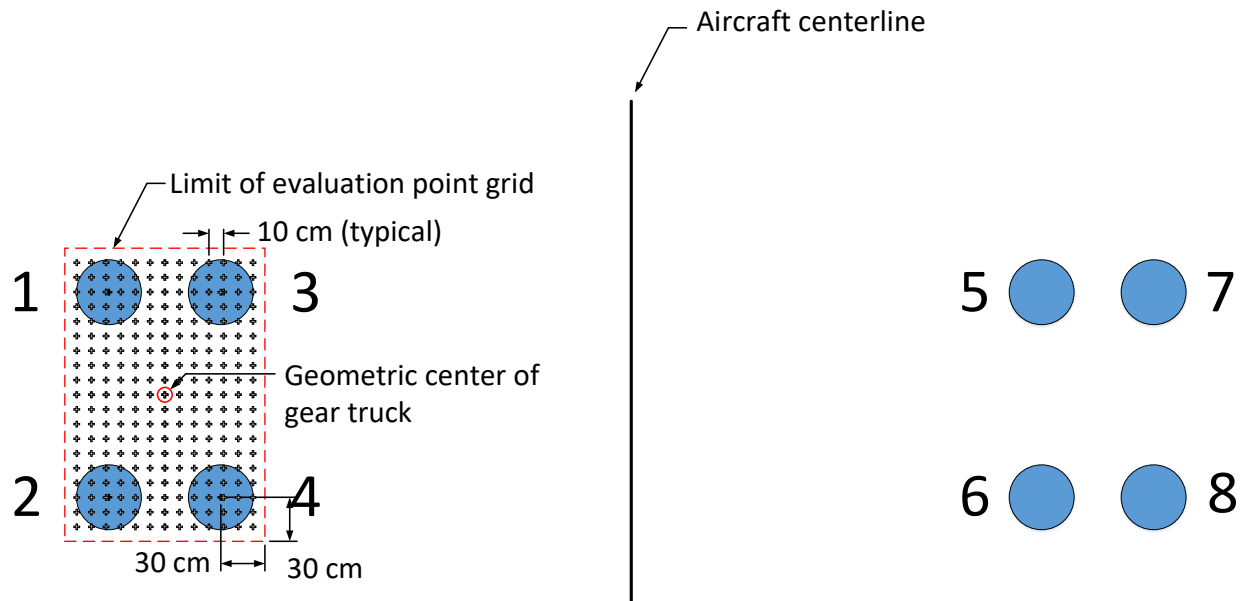

Figure D-1. Explanation of Variable SW for 2D Aircraft Gear.
- 2.3.3 Assign numerical values to declared input variables. The Boolean variable `Metric` is `True` for metric units, `False` for US units. Figure D-1 explains how to use variable `SW()`, which tells the program whether to include a given
wheel in the limits of the evaluation point grid (see Appendix C, 1.1.3.7 (d)). In ICAO-ACR, a value of 1 assigned to SW means the wheel is included in the strain evaluation point grid area; any value other than 1 is treated as 0. Note that *ACRClassLib.dll* does not determine the correct number of wheels to include in the strain evaluation point grid. This determination should be made by the calling program with reference to the guidance in Appendix C, 1.1.3.7 (d). Also note that variable SW only controls which sub-group of wheels in the main gear assembly defines the strain evaluation point grid, not the number of wheels used to determine ACR. *ACRClassLib.dll* determines the ACR value for all wheels passed to it (No_Wheels). (In Figure D-1, if all wheels 1-8 were assigned SW = 1, the difference in computed ACR values would be insignificant. However, the computation would take much longer.)